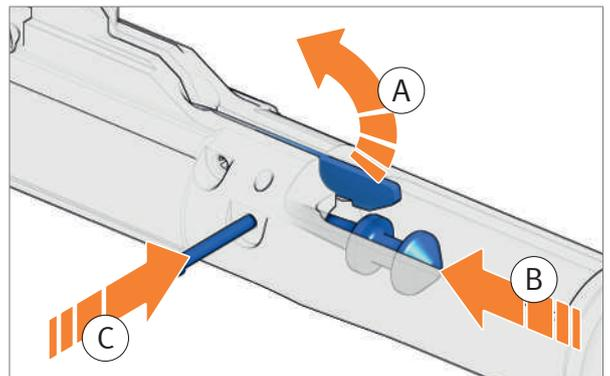

Fig. 120: Press in locking pin
5. Raise firing pin safety and hold it (*Fig. 120*).
6. Press firing pin and pressure spring for firing pin from the rear into the bolt head carrier as far as they will go and hold them (*Fig. 120*).
7. Insert locking pin from the left completely into the bolt head carrier (*Fig. 120*).